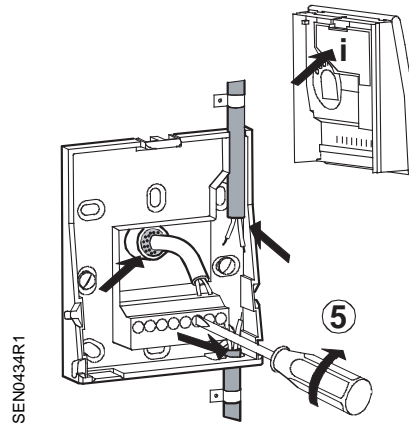

Figure 3.
- b. The humidity sensing membrane has "free space" and is not in contact with the PCA or the temperature sensing element. See Figure 3.